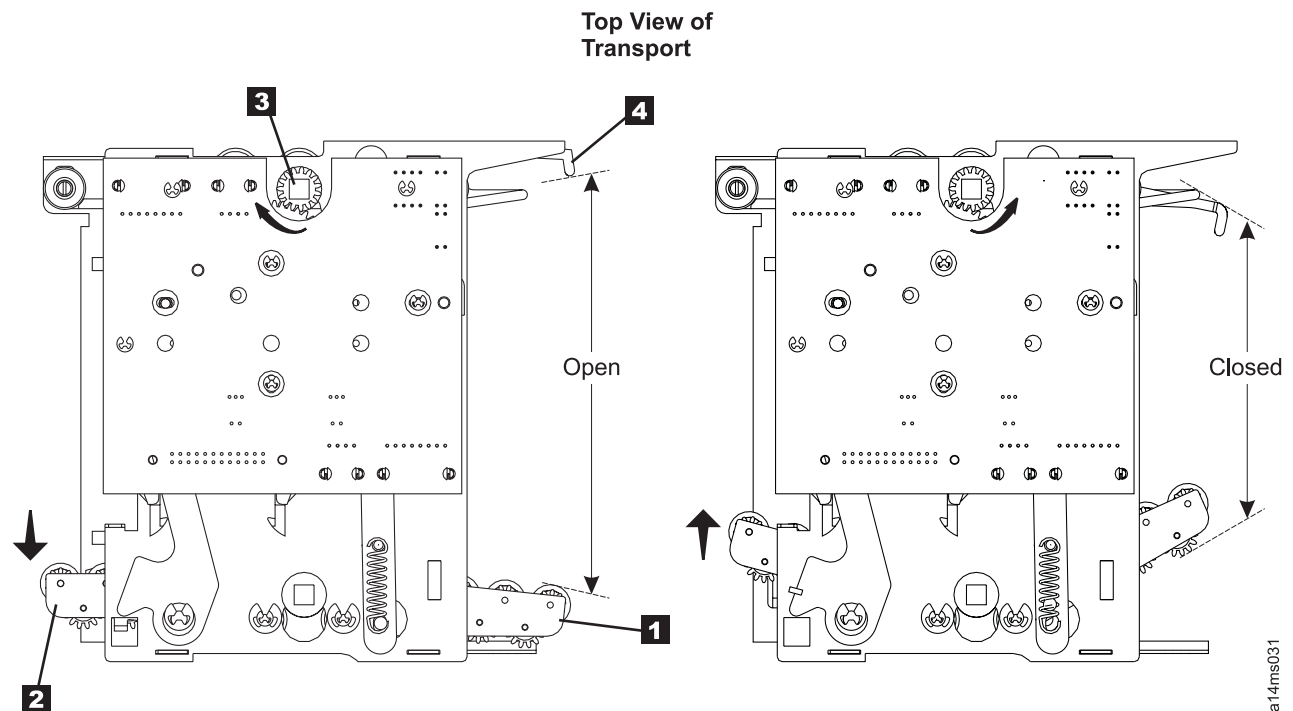

Figure 10-35. Pinch Roller Arm Positions
3. See Figure 10-35. Ensure the pinch roller arms **1** and **2**, and the cartridge release lever **4**, are open before moving the elevator assembly. If not, turn the pinch shaft **3** in the clockwise direction, as shown, to open the pinch rollers.
7. See Figure 10-35 on page 10-51. Rotate the pinch shaft clockwise to ensure the pinch rollers arms **1** and **2**, and the cartridge release lever **4**, are open before installing the ACF on the drive.